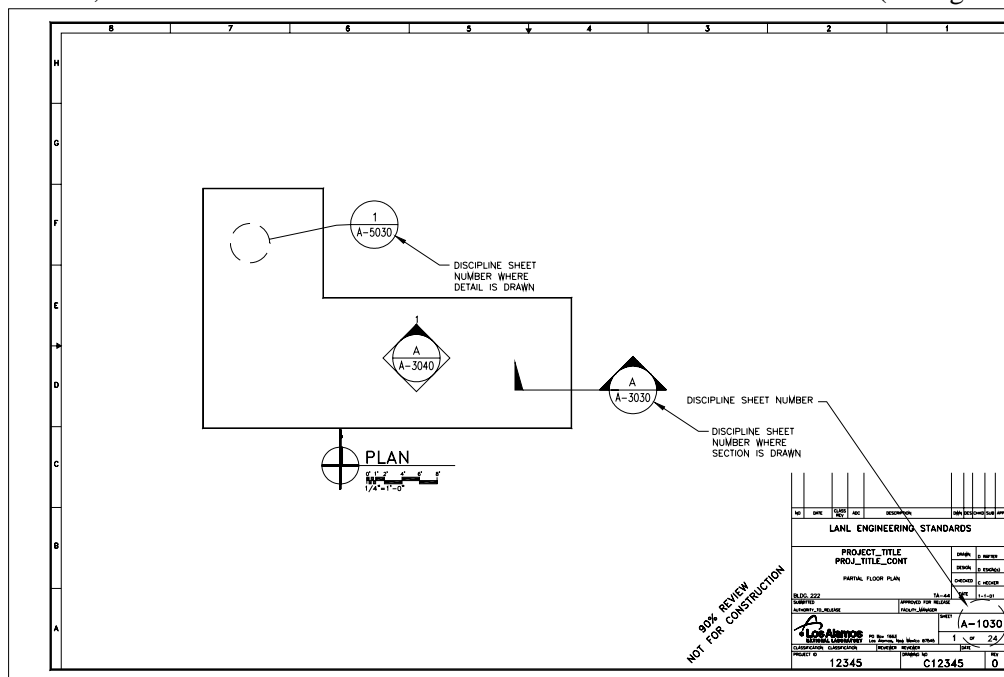

Figure 214-1
B. A detail, section or elevation **not** drawn on the sheet it is referenced or cut (see figure 214-1):